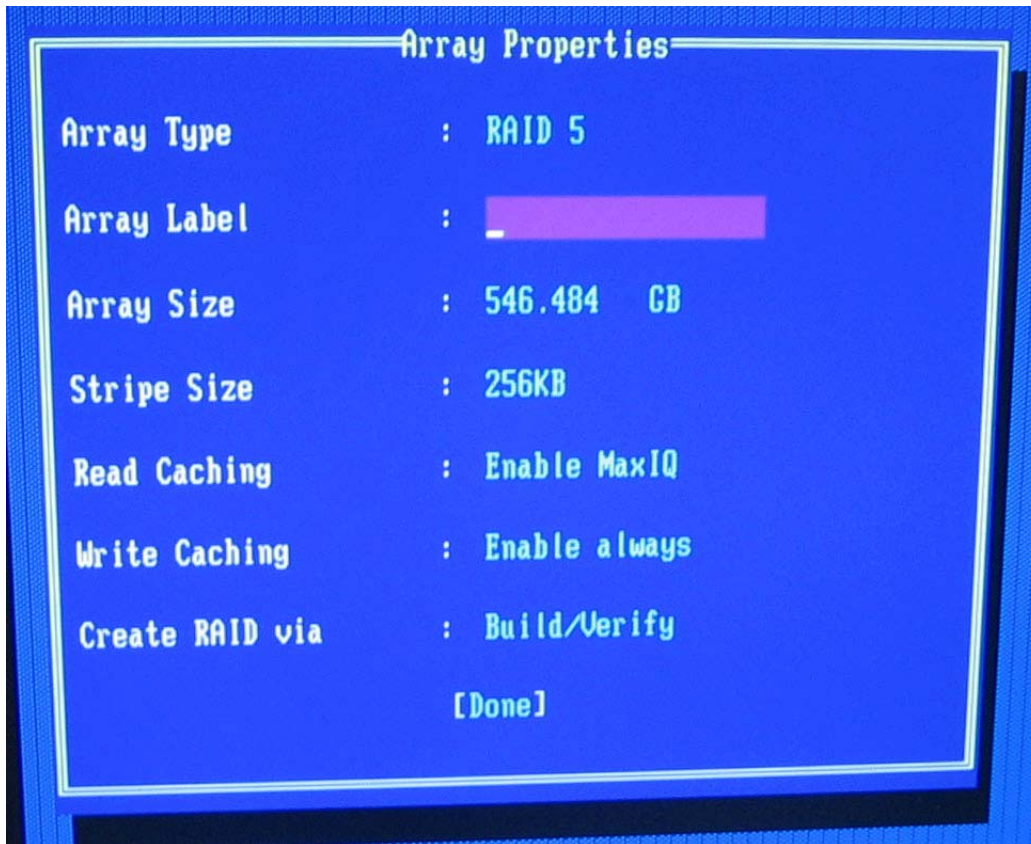

Figure 7-9 Array Label
11. In **Array Label** type a name and press **Enter**. (Figure 7-9).